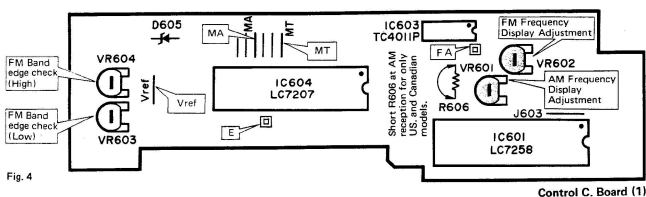

Fig. 4
* Use the dummy antenna shown in Fig. 4. (Do connect the loop antenna.)